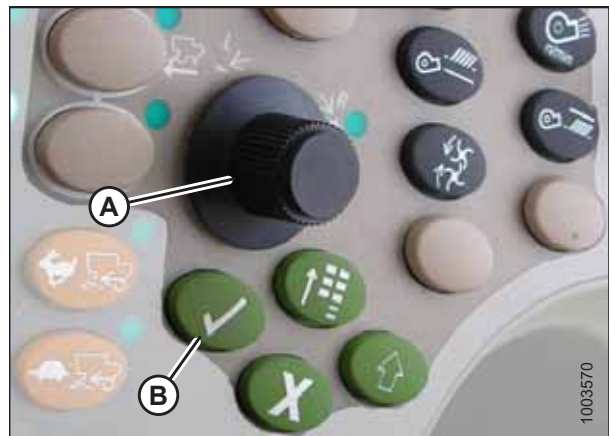

Figure 7.276: John Deere Combine Control Console
7. Select HEADER in box (A) by scrolling down to the box using the scroll knob, and then pressing the check mark button (knob and button are shown in Figure 7.276, page 306).
8. Scroll down to the lower right icon that resembles an arrow in a diamond (B) and press the check mark button to select it.